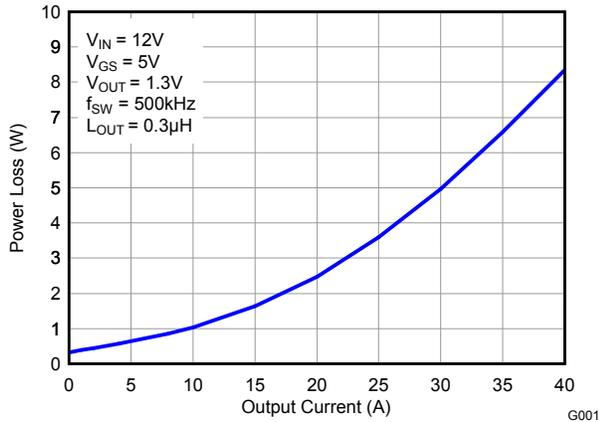

Figure 1. Power Loss vs Output Current
MOSFET centric parameters such as  $R_{DS(ON)}$  and  $Q_{gd}$  are needed to estimate the loss generated by the devices. In an effort to simplify the design process for engineers, Texas Instruments has provided measured power loss performance curves. Figure 1 plots the power loss of the CSD86350Q5D as a function of load current. This curve is measured by configuring and running the CSD86350Q5D as it would be in the final application (see Figure 28). The measured power loss is the CSD86350Q5D loss and consists of both input conversion loss and gate drive loss. Equation 1 is used to generate the power loss curve.
The power loss curve in Figure 1 is measured at the maximum recommended junction temperatures of 125°C under isothermal test conditions.
- Power Loss at 25A = 3.5W (Figure 1)